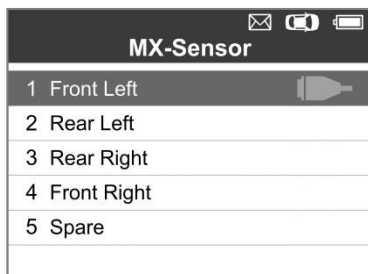
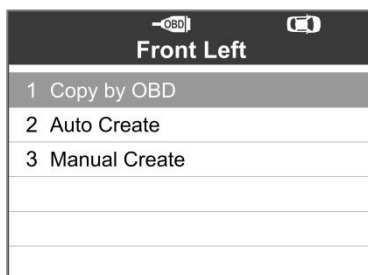

Figure 5-18 Sample OBD Mark Screen
Figure 5-19 Sample Copy by OBD Screen
1. Follow the steps in Auto Create to select **MX-Sensor** to enter the **Programming** function. The OBD mark will appear on the right side of the screen (Figure 5-18). After selecting the specific wheel and pressing the **Y** button, the **Copy by OBD** option is available on the function menu (Figure 5-19).
1. Follow the steps in Auto Create to select **MX-Sensor** to enter the **Programming** function. The OBD mark will appear on the right side of the screen (Figure 5-18).